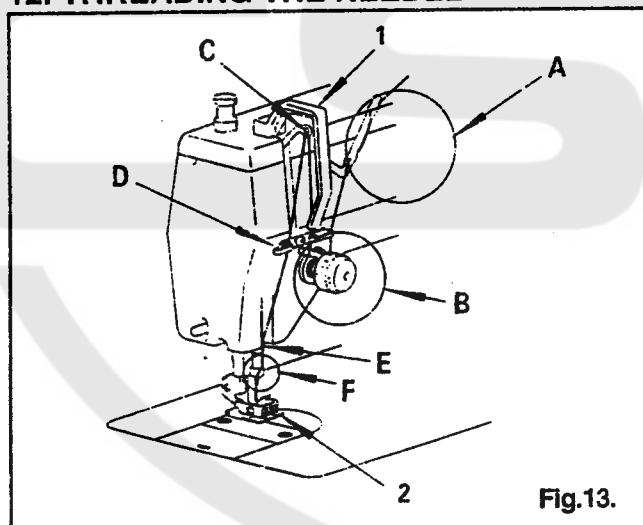
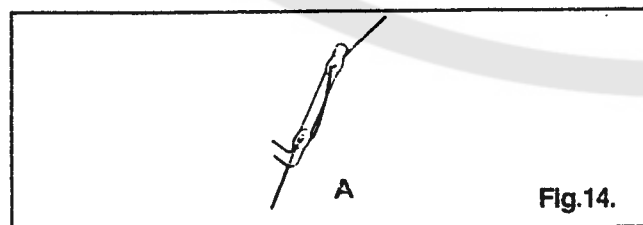
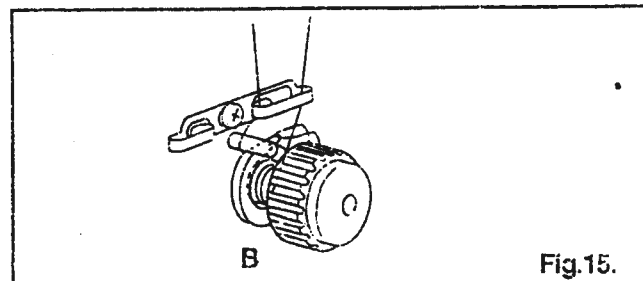

Fig.13.
Fig.14.
Fig.15.
1. Lead thread from the thread unwinder through all the threading points A (Fig.14), B (Fig.15), C (Fig.13), D (Fig.13), E (Fig.13) and F (Fig.15) in the order shown.